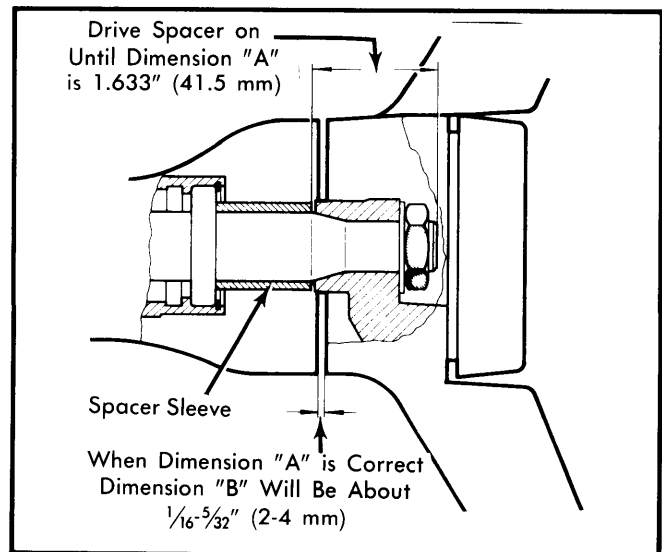

Fig. 2 Dimensions for Installing Spacer Sleeve
3) Remove turn signal switch assembly (only if column lock assembly is being removed). Remove mainshaft bearing retainer and snap ring (if required). Insert key and turn ignition to "ACC" position. Using a small pointed tool to press down stop pin on side of cylinder, free mechanism and pull cylinder from housing. See Fig. 2.
Installation — Refit switches together with screw and spacer sleeve. Slide switch assembly onto column and hook up wires. Spacer sleeve must be installed as shown in Fig. 2.